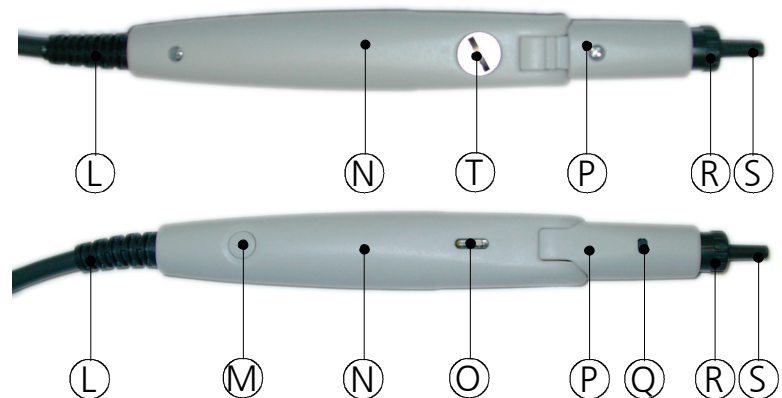

Figure 8
The probe of the MI 26 is shown in Figure 8. The probe head is adjustable to three angles (0°, 60° and 80°). It is adjusted by turning the locking screw (T) at the bottom of the probe using a coin or a screw driver. Adjust the probe head (P) pulling it into the required position until it rests. After it is set to the required position tighten the locking screw again.